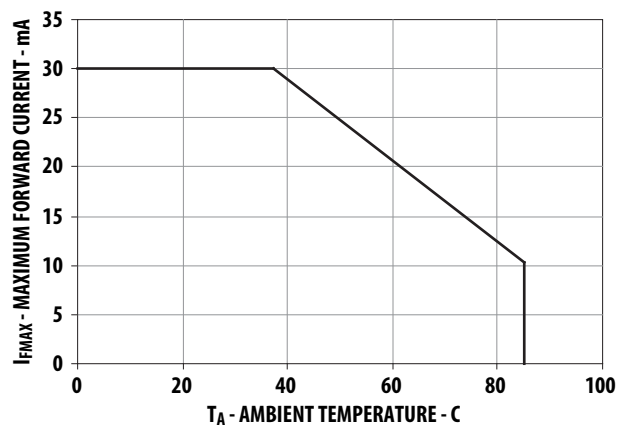

Figure 4. Maximum Forward Current vs Ambient Temperature
- Derate linearly as shown in Figure 4.